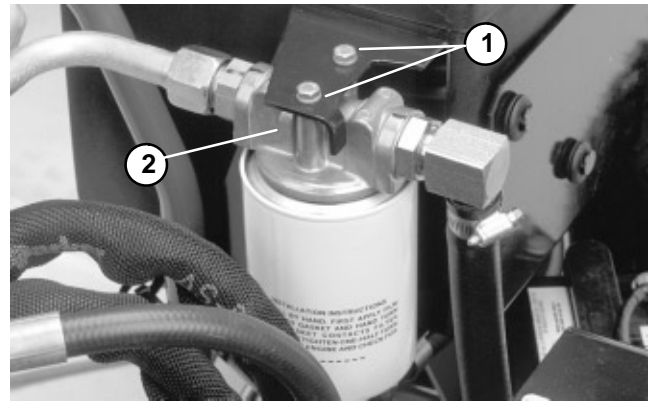

Figure 33
4. Drain fuel tank (2) as follows:
- A. Close fuel shutoff valve (24).
- B. Disconnect fuel hose (22) from the fuel filter (31). Use funnel and hose to drain the fuel into a suitable container for storage.
5. Loosen hose clamp (7) and disconnect fuel hose (8) from the bottom of the fuel tank (2).
6. Remove four philips pan head screws (6) and flat washers (28) securing the fuel tank (2) to the fuel tank base (4).
7. Lift fuel tank (2) from fuel tank base (4). Make sure not to lose grommets (3).
8. If the fuel tank base (4) is to be removed,
- A. Remove both cap screws and lock washers securing the filter head to the base (Fig. 33).
1. If the fuel tank base (4) was removed,
- A. Secure fuel tank base (4) to the frame with three cap screws (13), flat washers (14), lock nuts (5).
- B. Securing filter head to the base with both cap screws and lock washers (Fig. 33).
2. Position fuel tank (2) to the fuel tank base (4).
- A. Apply antiseize lubricant to the threads of the four philips pan head screws (6).
- B. Make sure grommets (3) are in place. Secure fuel tank to the base with four flat washers (4) and pan head screws.
3. Connect and secure fuel hose (8) to the fuel tank (2) with hose clamp (7).
4. Connect and secure fuel hose (22) to the fuel filter (31) with hose clamp (23).
5. Open fuel shutoff valve (9) below the fuel tank.
7. Install litter box (26) to the frame. Pivot seat down.